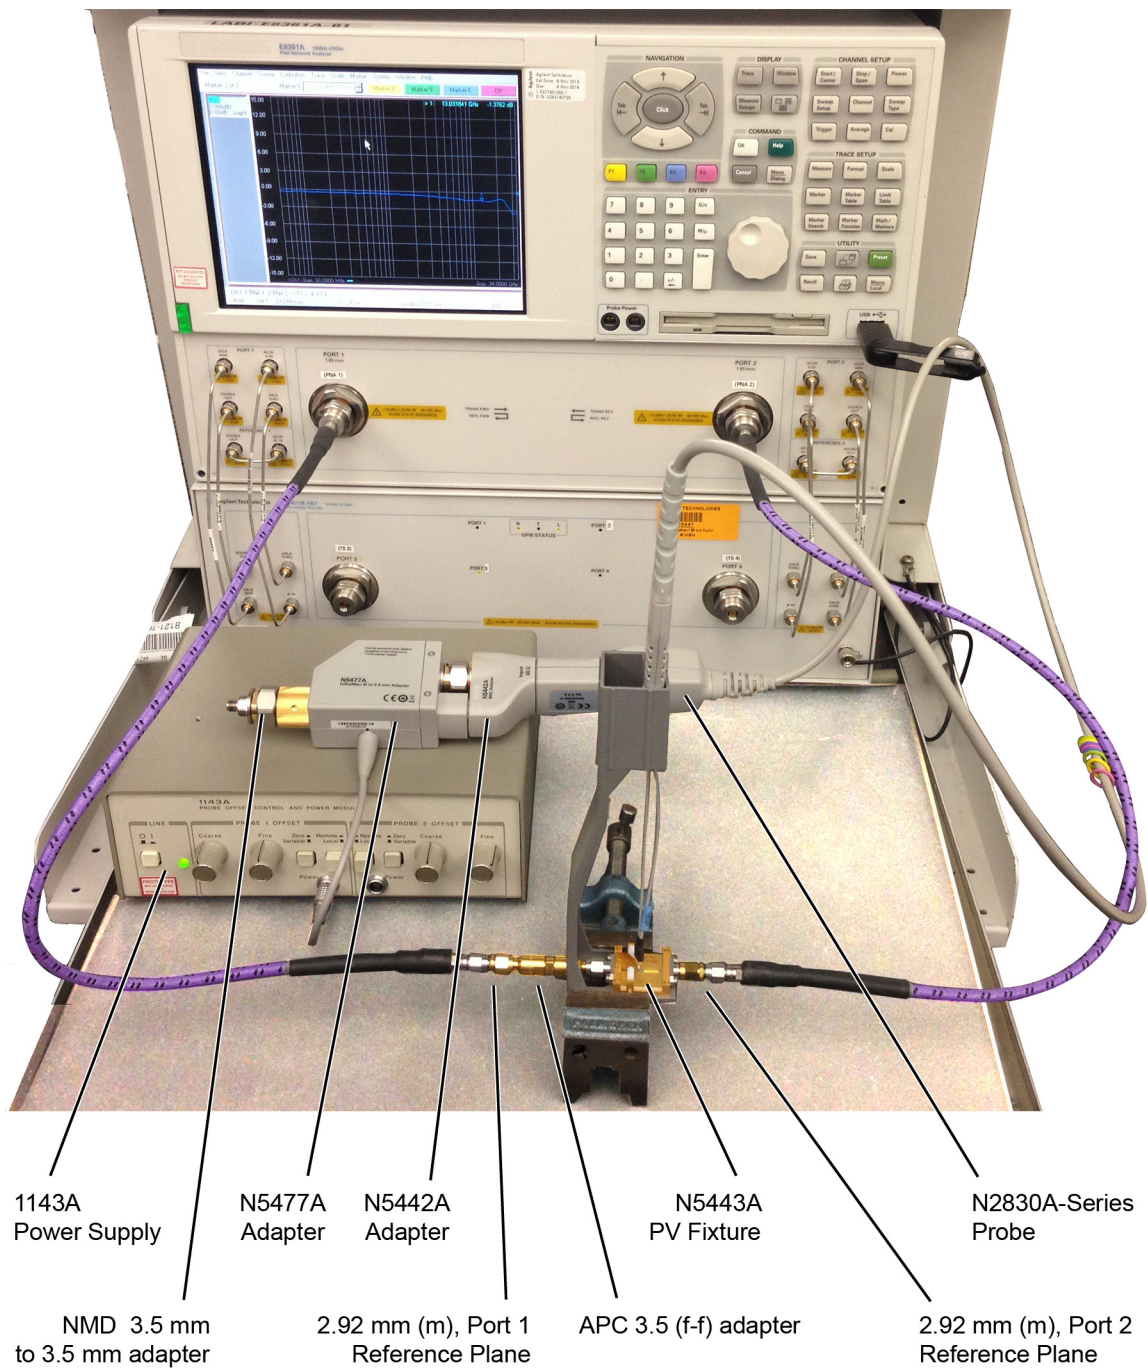

Figure 93 Test Setup for Measuring V_{in} of Probe
- 3 Connect the APC 3.5 (f-f) adapter, provided with the N5443A PV fixture, to the N5443A. as shown in **Figure 93** on page 120. Use a small bench vise to steady the N5443A PV fixture on the test surface.